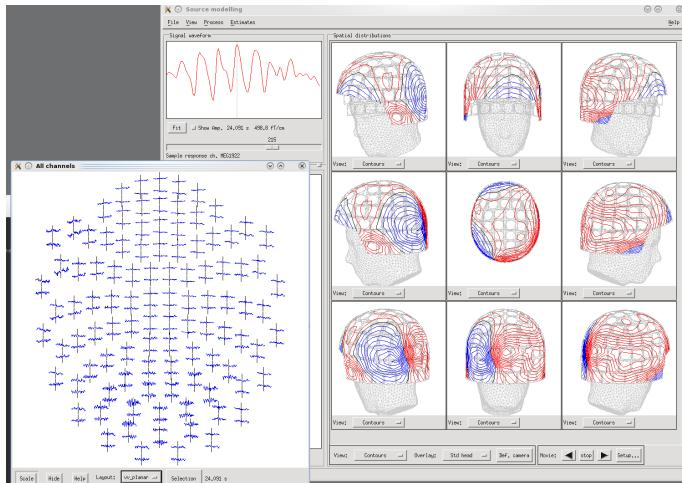

Figure 59: *Xfit* displays of alpha waves.
- Review the spatial displays. In this example, both instantaneous spectra in **Graph** and **View -> Full view** display in **Xfit** show clear alpha oscillations (Figure 59). The timepoint selection at one of the peaks displays a bipolar field pattern in the left occipital region.